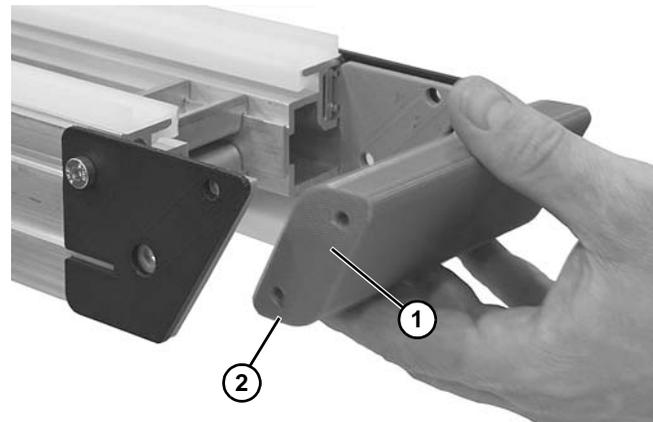

Figure 85
- Remove bar (**Figure 85, item 1**), flip 180°, and re-install bar.
Bar may be flipped 180° to use second wear surface (Figure 85, item 2).